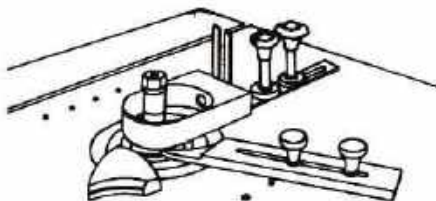

Fig.699 SHAPING SMALL PIECES ON A STARTING BLOCK COLLAR
- Adjust the cutting height of the spindle so that the shaper cuts will be made where they were planned. Adjust the circular ring guard so that it barely clears the work. See Fig.699. This may not be on all shapers, but it is a good safety precaution.